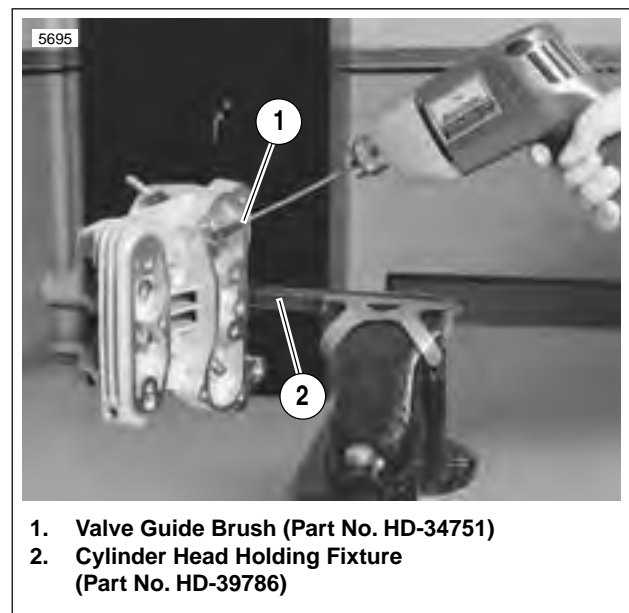

Figure 3-56. Cleaning Valve Guides
- See Figure 3-56. Thoroughly clean valve guide bores using VALVE GUIDE BRUSH (Part No. HD-34751) and hot soapy water.